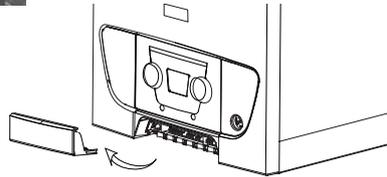

Fig. 14
2. Fully undo the two screws retaining the electrical cover at the bottom of the front panel. Remove the cover (Fig. 14).